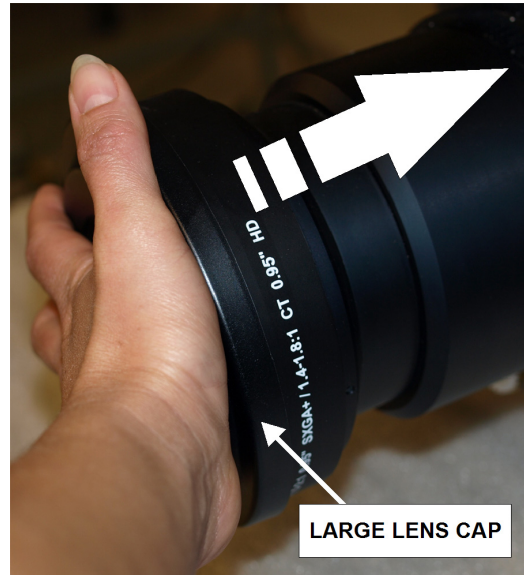

FIGURE 2-2 LENS PLACEMENT
- Align the lens interface plate with the lens mount. Align the lens electrical connector with the mating connector on the lens mount. Fully insert the assembly straight into the lens mount opening without turning. Press using your hand as shown in Figure 2-2. **NOTE:** When installing the lens, ensure that the lens is not inserted at an angle, as this can cause damage.